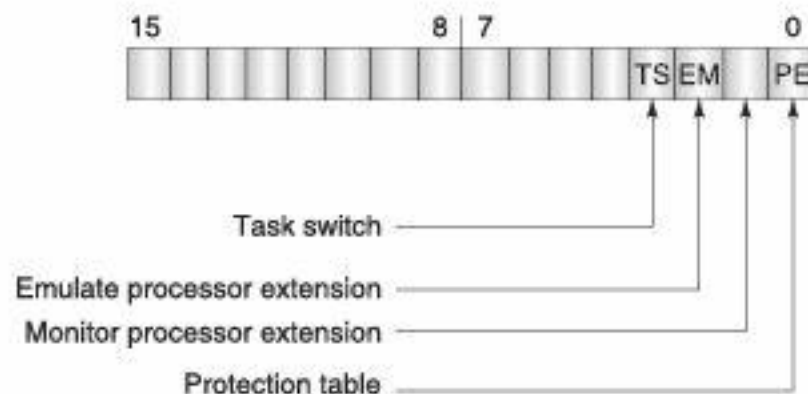

Fig. 7.4 Protected Virtual Address Mode PVAM.
Figure 7.4 represents the format for the MSW. The MSW is a 16-bit register. The bit 0 is the protection enable (PE) bit. Bits 1, 2 and 3 indicate whether a processor extension (such as coprocessor) is present or not. The bits are changed in the machine status word (MSW) by loading the desired word in a register or memory location and executing the Load Machine Status Word (LMSW) instruction. Once the PVAM is entered by executing the LMSW instruction, resetting the system can only get it back to the real address mode. This processor is so designed that a programmer should not switch the system back into real address mode to defeat the protection scheme in PVAM.